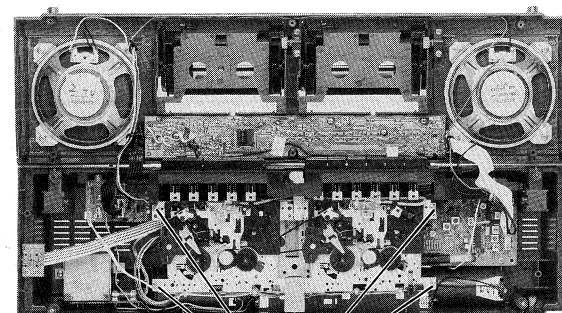

Figure 2
1. Remove four screws (B).
3. Mechanism assembly will be removed. (Figure 2)